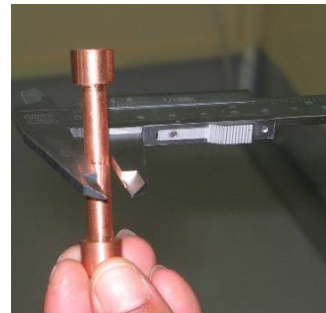

Fig. 5.6: Measuring the diameter.
1. Use the Vernier caliper to measure the diameter of the specimen as shown in Fig. 5.6 and record it.